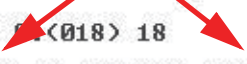

Figure 4-21 Assigning Gateway IP Address
13. Type **Y** to set the Gateway IP address. Type the Gateway IP address and press **Enter**. See Figure 4-21.